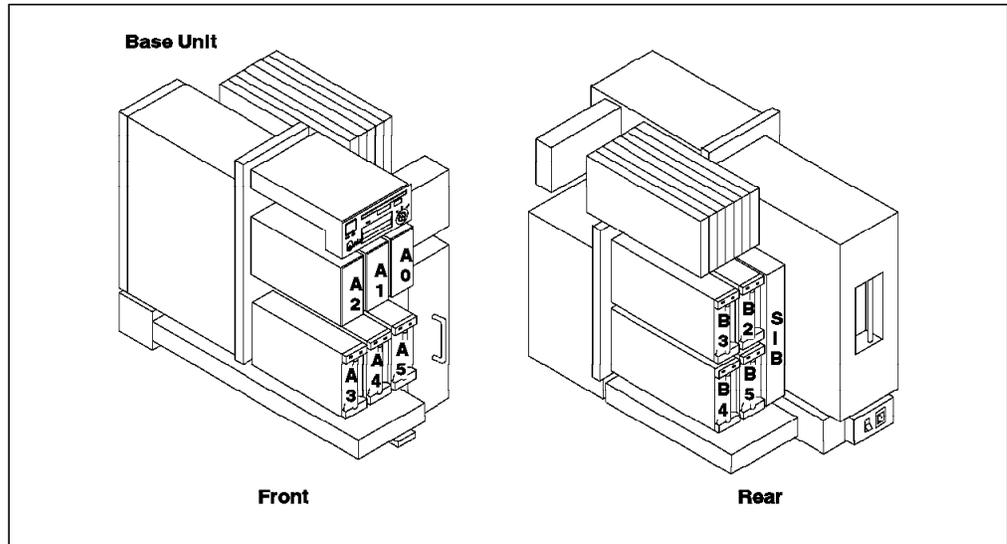

Figure 51. Front and Rear SCSI Devices Locations on the J40 Server
Figure 51 on page 89 shows that devices on the front are connected to the first SCSI-2 Differential F/W controller (A), and the disks on the back are connected to the second SCSI-2 Differential F/W controller (B).